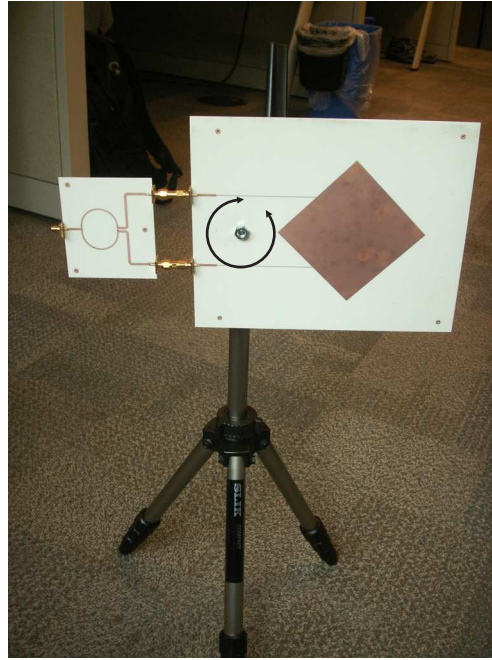

Figure 5: Mounting of the patch antenna with a 2-way Wilkinson power divider attached. The arrows denote the way the antenna is rotated in Section 3.4.
3. Rotate the patch such that it is at 45° to the reference antenna. Refer to Figure 5.
3. Rotate the patch such that it is at 45° to the reference antenna. This is the same orientation as shown in Figure 5.